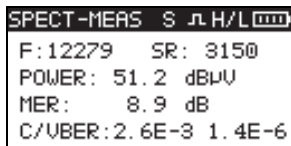

Figure 6
5. Press  to measure LEVEL, MER and CBER/VBER, refer to figure 6.